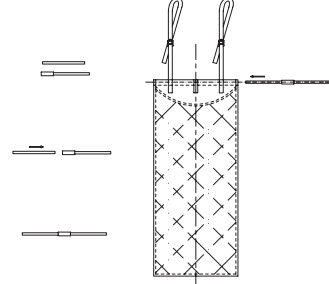

Figure 4
2. Attach the 2 support rods together then insert the combined rod into the top opening of the press pad (Figure 4).